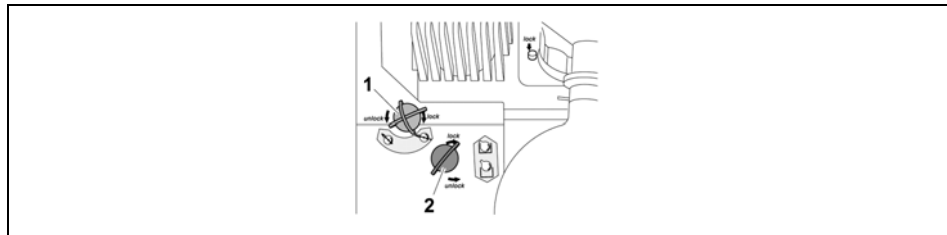

Fig. 4-11: Angle and immersion depth of evaporating flask
- Turn black knob (Fig. 4-11 (2)) anticlockwise toward **unlock**.